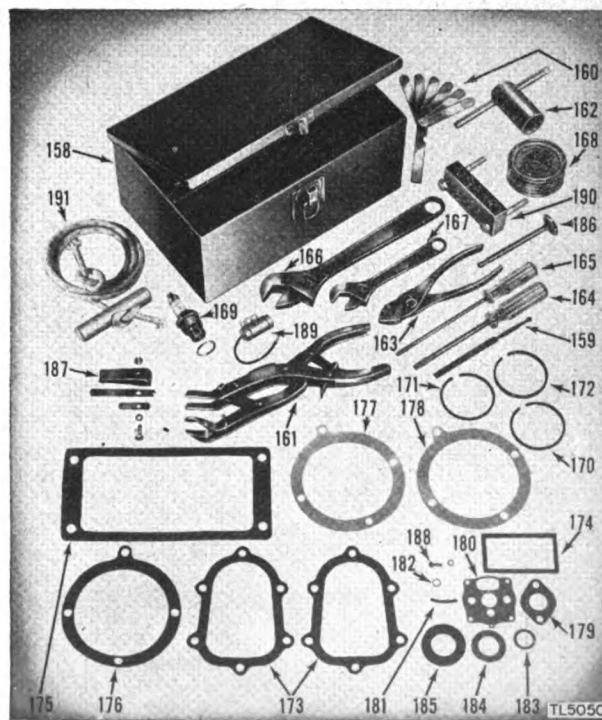

Figure 34. Tool box assembly—exploded view.
** TOOL BOX ASSEMBLY (fig. 34)